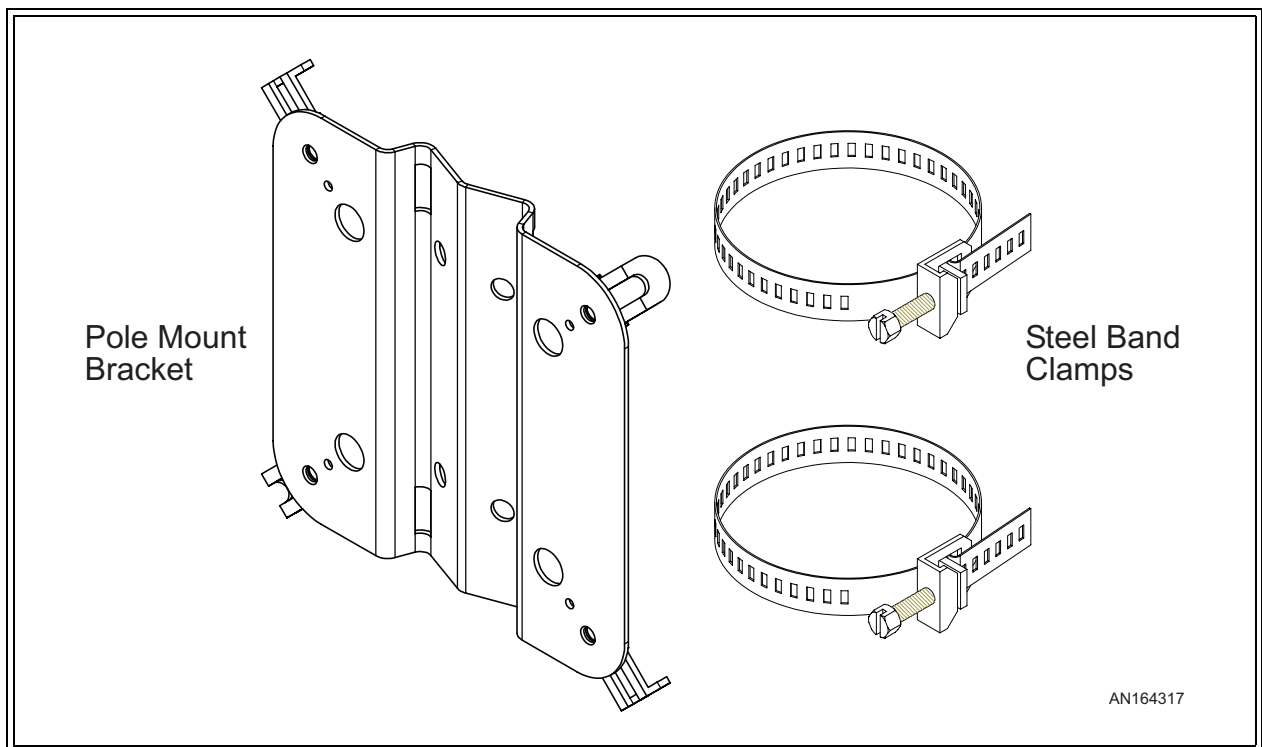

Figure 4-10 Non-Adjustable Elevation Single Aeras WaveLink Bracket
- A See Figure 4-10. Assemble the two steel band clamps to the pole mount bracket.